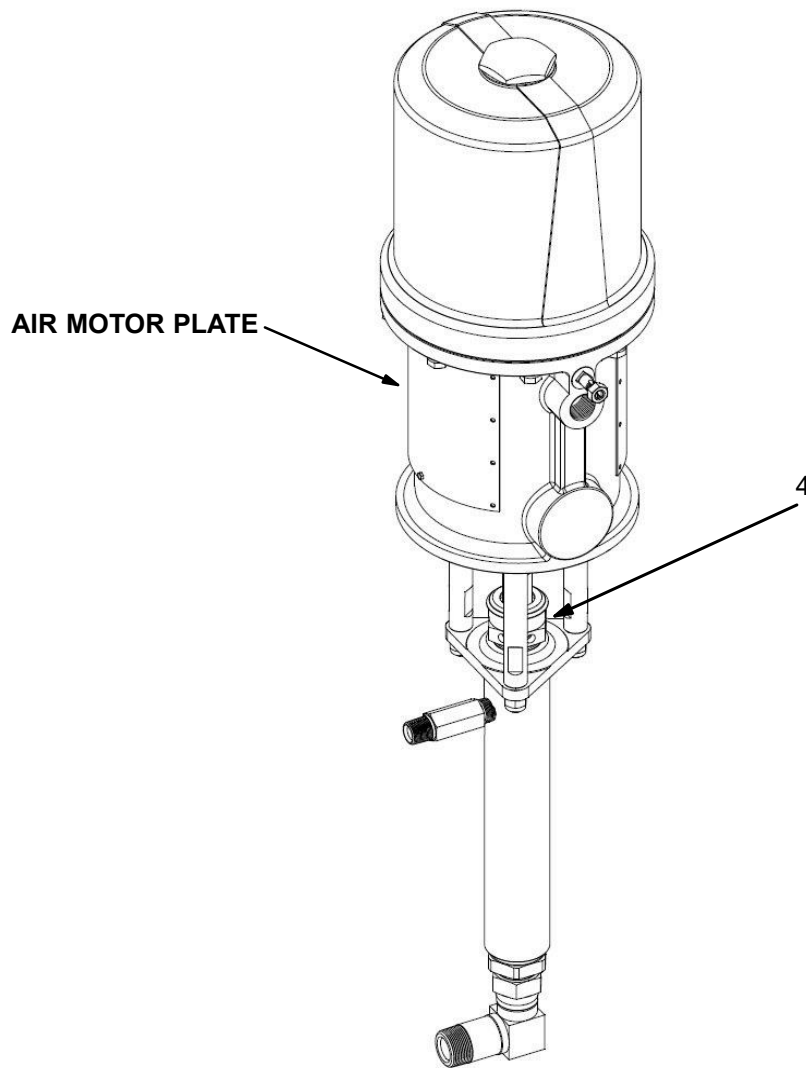

Fig. 2
Keep the packing nut/wet-cup (4) filled with Storm Machinery Throat Lubricant (DOP) or compatible solvent, to help prolong the life of the packings. Adjust the packing nut weekly, so it is just tight enough to prevent leakage; do not over tighten. See Fig. 2.